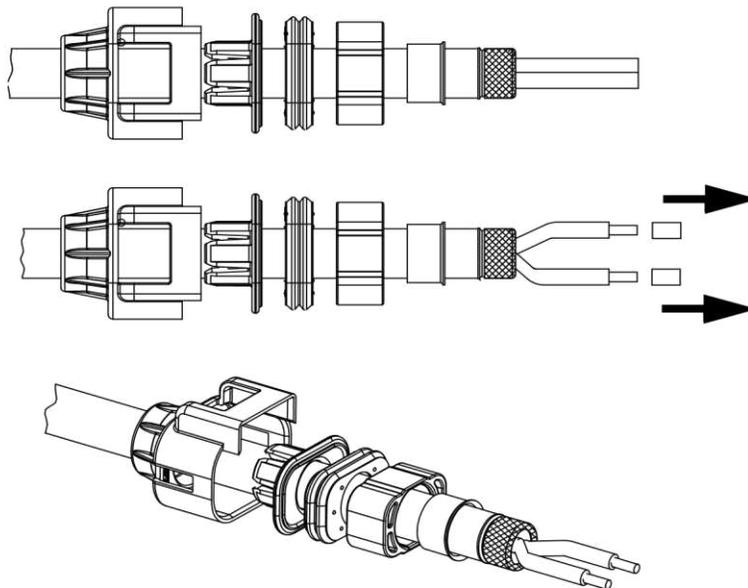

Figure 7
- 3.6.5.** Separate conductors and strip to length as shown in Figure 7. Refer to Application Specification 114-18148-1 or 114-18387 for strip length.